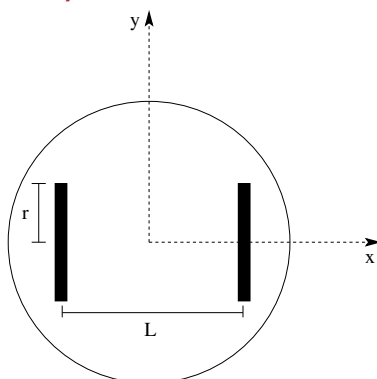

Figure 1: The Indoor Vacuum Robot
3. **(20 points)** Figure 1 shows an indoor vacuum robot has a differential drive chassis with two wheels, each with a radius of r , that are separated by a distance L .